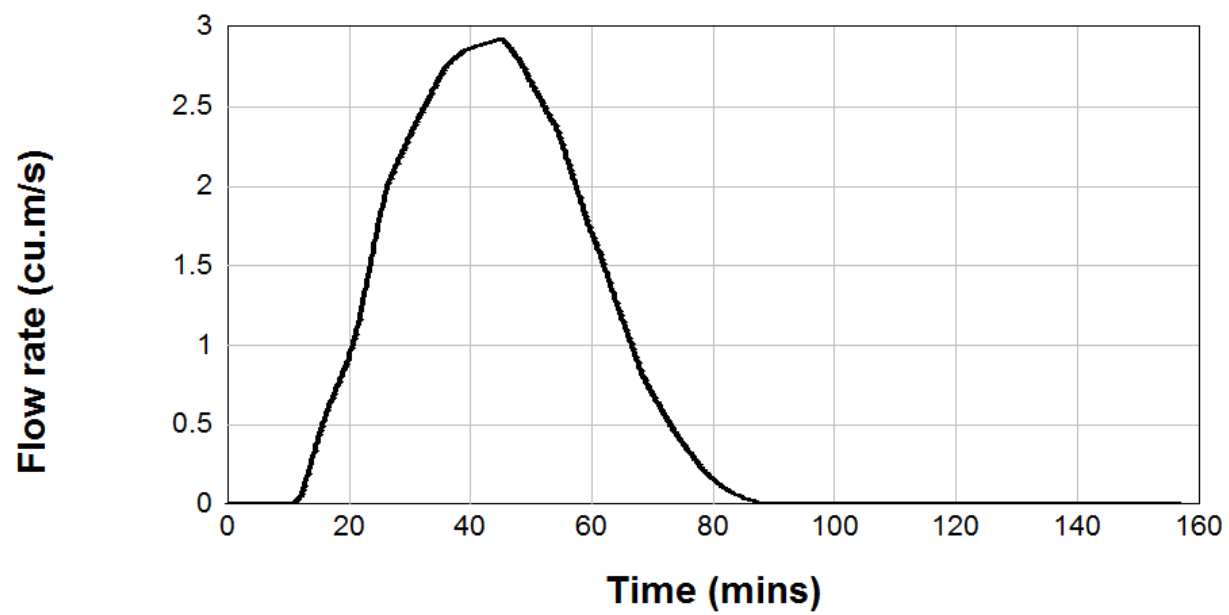

Figure 7 – Eastern Site Boundary Node N4 – 100 Year ARI Storm – 60 minute duration
- ❖ Figure 7 Concept Trench Drainage Ground Floor Plan